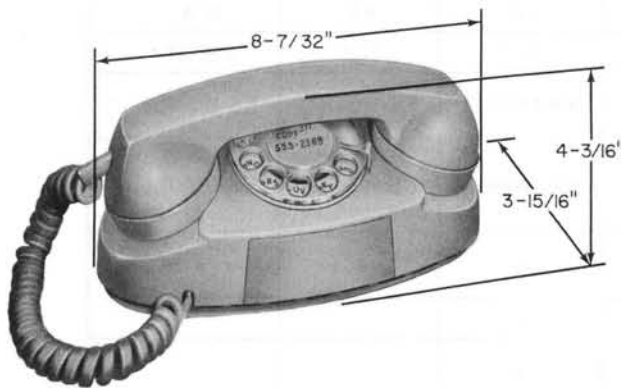

Fig. 1—Typical 700-Type Telephone Set, Front View
1.01 This section contains information on the 701D (MD), 702D (MD), 711B (MD), 713B (MD), and 713BM PRINCESS® telephone sets (Fig. 1).